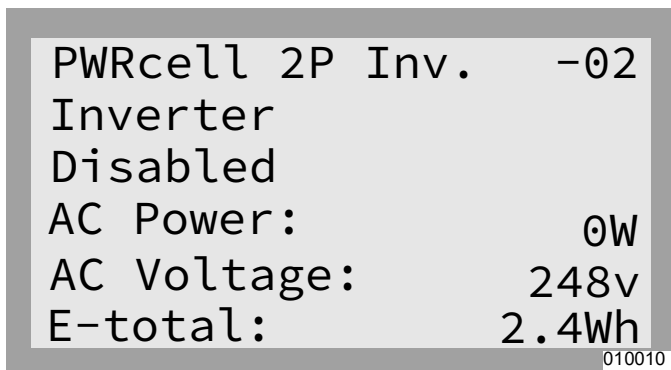

Figure 7-7. Enabling Inverter (1 of 3)
7. See Figure 7-7. From the home page on the inverter control panel, use the right arrow key to navigate to the inverter device page.